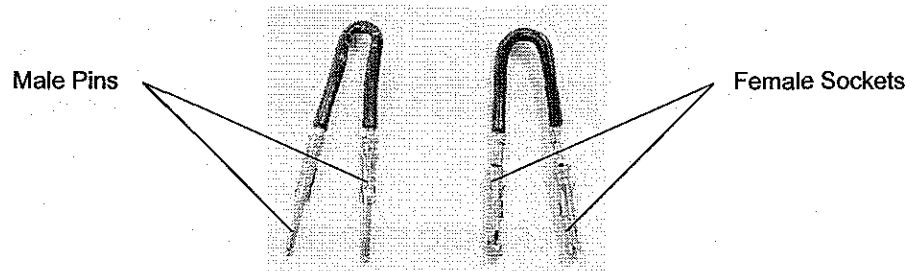

Figure 2-4a
1. Assemble jumper wire (see Figure 2-4a) with two male pins (equivalent: Tyco/Amp P/N 66591-1, male pin – 22-18 AWG).
2. Assemble jumper wire (see Figure 2-4a) with two female sockets (equivalent: Tyco/Amp P/N 66592-1, female socket – 22-18 AWG).